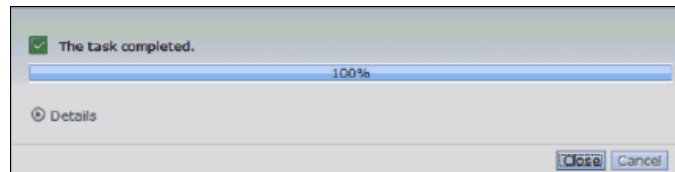

Figure 2-15 Wizard setup complete
9. After you click **Finish**, wait until the setup Wizard is complete, as shown in Figure 2-15.